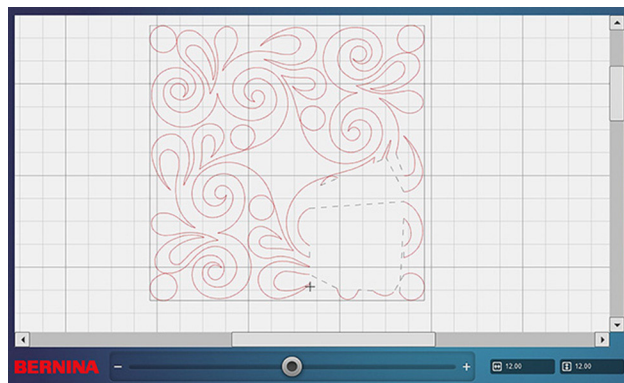

Fig. 22
5. Select Preview (Fig. 22) to see what the mask will look like. At this time, you can either undo the mask or accept the mask and create another one. When satisfied, select the green check to confirm all masks.